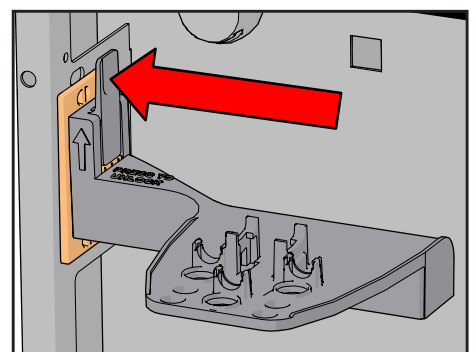
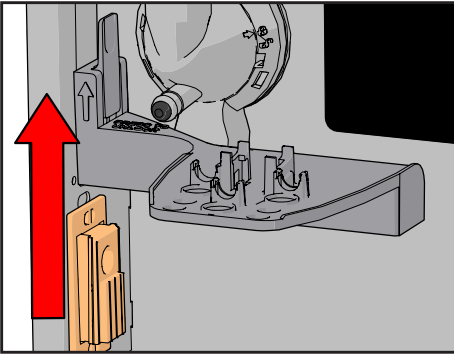

Figure 39.
Figure 40.
6. Detach the outlet arm from the cabinet. Press the locking device and slide upwards (see Figure 39 en Figure 40).